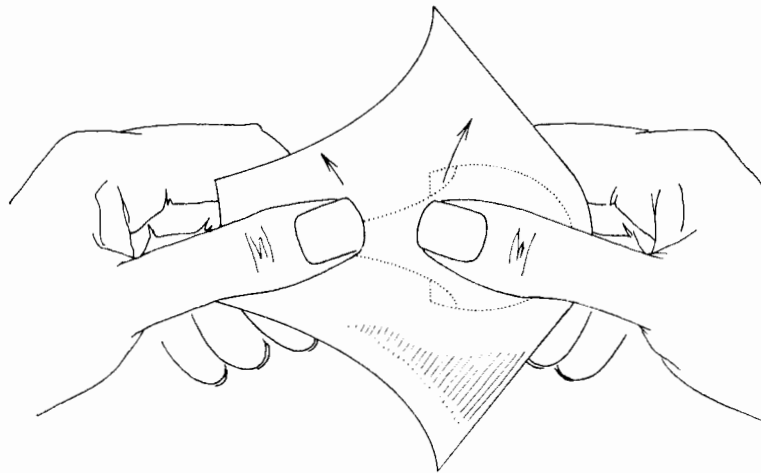

**Fig. 140.** Positioning cover and heel.
4. Position the heel as in Figure 140; be sure the cover does not stick to the heel, except where it is held under the thumb.